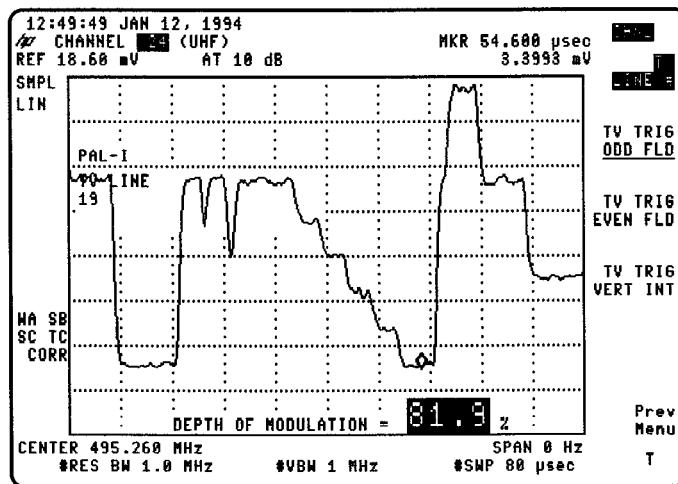

Figure 2-24. Video Modulation (Line 19 UK ITS)
5. To change the TV line number, either enter the new number and press **ENTER** or use the up and down arrow keys (**↑** and **↓**) to increment and decrement, respectively, the current line number by one. Note that line 19 appears in Figure 2-24.
- b. **VID AVG ON OFF** (ON)